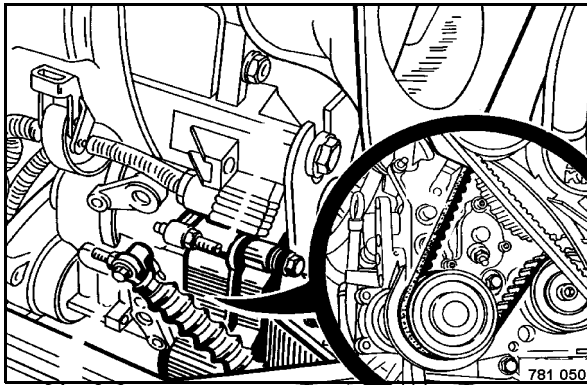

Fig. 184
- Have the toothed belt (Fig. 184) replaced by a specialist workshop.